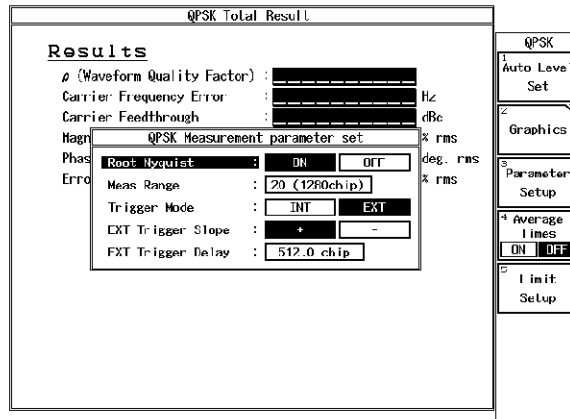

Figure 6-8 Setting of Parameter for W-CDMA Measurement Test
- On the R3267/73, set the parameter referring Figure 6-8.